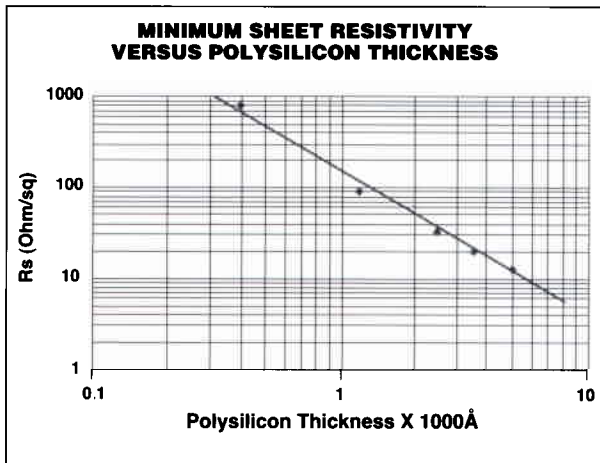
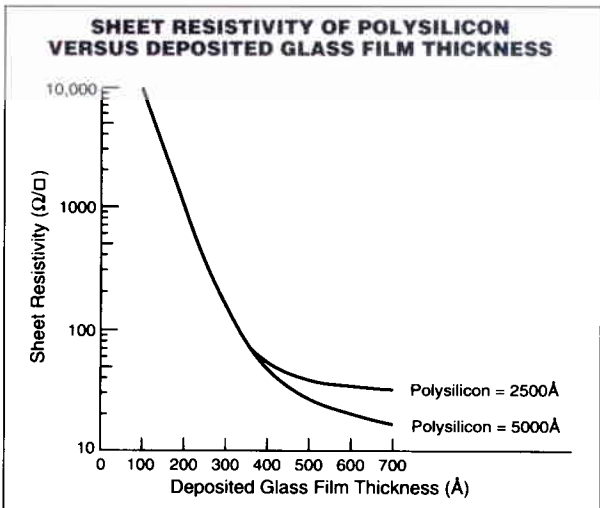

Figure 9
Figure 10
**Polysilicon:** The minimum sheet resistivity that can be obtained from polysilicon wafers that are saturated with phosphorus partially depends upon the thickness of the polysilicon layer as shown in Figure 9. These sheet resistivities are about  $12 \Omega/\square$  for  $5000\text{Å}$  of polysilicon and about  $32 \Omega/\square$  for  $2500\text{Å}$ , and they occur when the deposited phosphorus glassy film exceeds about  $500$  to  $600\text{Å}$  as shown in Fig. 10.
Glassy films that are less than  $500\text{Å}$  can also be uniformly deposited on the polysilicon wafers from the PhosPlus sources to produce higher sheet resistivities for special applications. Figure 10 can be used as a guide to determine the approximate thickness that is required for different sheet resistivities.
Doped polysilicon layers with smooth surfaces are important in the manufacture of certain devices. Very smooth surfaces can be obtained when the polysilicon layer is first doped with the TP-250 sources to a level slightly below saturation ( $400$ - $500\text{Å}$  as shown in Fig. 10.). When this glass is etched off and the silicon wafers are annealed near  $950^\circ\text{C}$  for about 15 min, smooth surfaces are maintained and the silicon exhibits the minimum sheet resistivity characteristic of its thickness (Fig. 9).